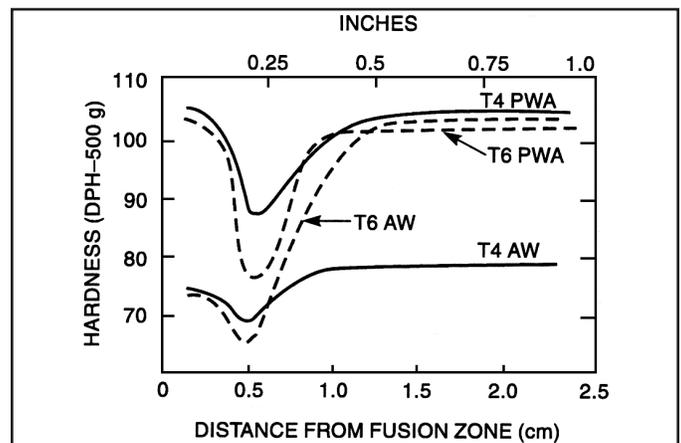

Figure 2: Hardness vs. Distance for 6061-T4 and -T6 in the as-welded and post-weld aged conditions
There is no blanket statement that can be made about the welded strength of heat-treatable alloys. As previously stated, the weld will generally be weaker than the parent material. However, the welded properties will strongly depend on the temper of the material before welding and also on heat treatments performed after welding. Figure 2 shows a micro-hardness trace across a weld, starting at the center of the weld. The graph actually shows four curves representing what happens to material in the T4 and T6 tempers in the as-welded (AW) and postweld heat-treated (PWA) conditions. The following can be noted: